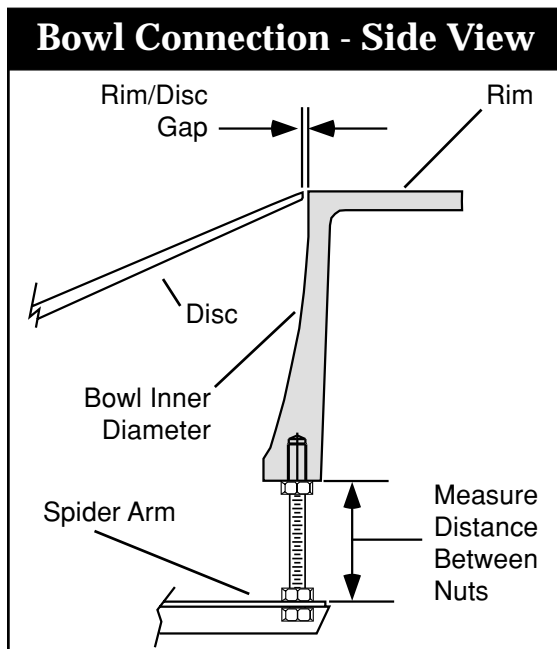

Figure 5-3. Side View - Bowl Connection
► If machining enlarges the inner diameter of the bowl, you may need to replace the disc with a larger one (custom-sized) from your direct supplier. If you do not obtain a larger disc, the gap between the disc and the inner diameter of the bowl may pinch or snag product (see Figure 5-3).
Measure the height between the bottom of the bowl, and the top of the spider arm (where the threaded rod connects the two parts - see Figure 5-3). Loosen and remove the bottom nut on the spider arm (on each of the eight (8) arms) and remove the bowl - pulling it up and away from the feeder.